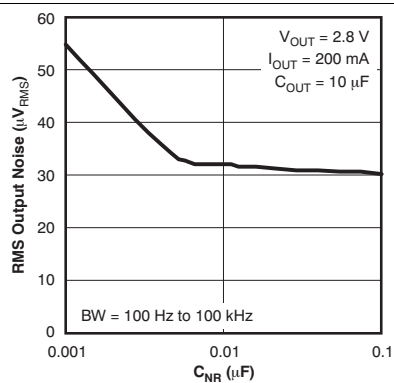

Figure 5. Root Mean Square Output Noise vs  $C_{NR}$
• Corrected units in y-axis of Figure 5 .....	6